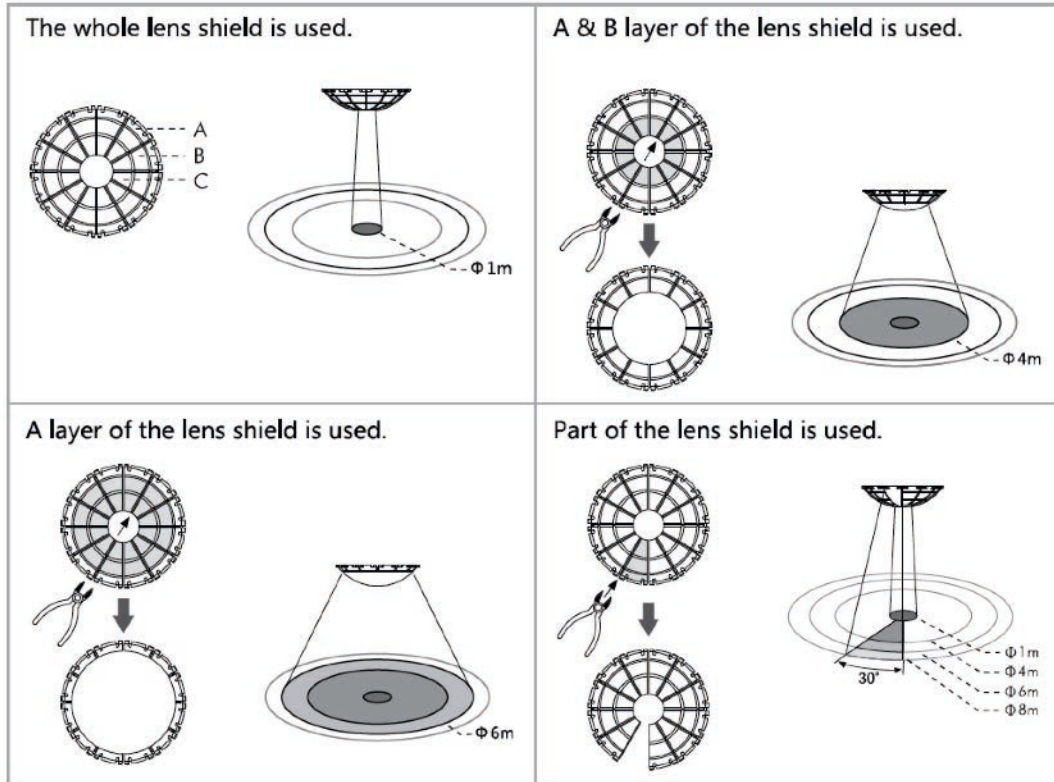

FIG.17
- The shadow part of the lens shields in the FIG.17 is referring to the cut off parts.